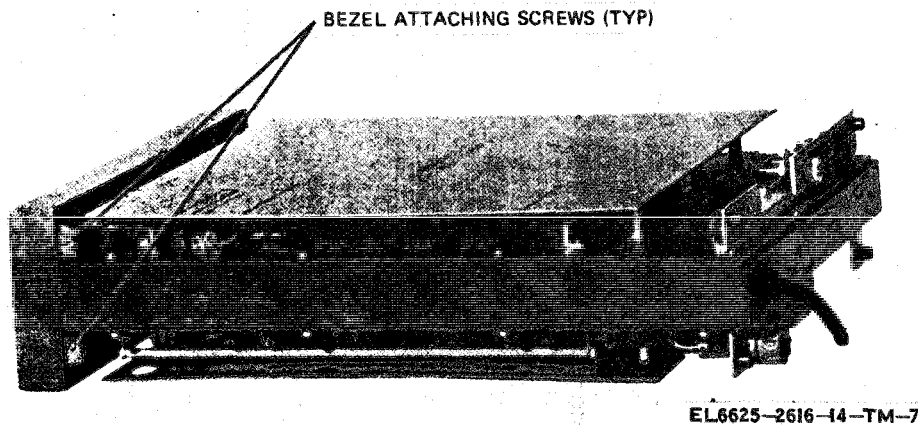

Figure 4-2. Bezel removal.
(1) Remove top and bottom covers (para 4-8b(1)).
(2) Remove bezel and front panel by removing the four screws attaching bezel to chassis (fig. 4-2).
(3) With a rocking motion, carefully pull the faulty tube from its socket.
(4) Install new tube, using care to properly align pins into tube socket.
(5) Replace bezel with front panel and replace top and bottom covers.